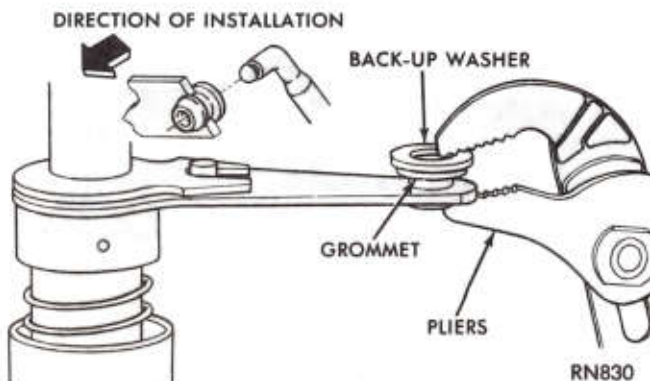

Fig. 5—Install New Grommet
(13) Remove nuts attaching steering column bracket to instrument panel support.
(14) Carefully remove lower coupling from steering gear wormshaft, then remove column assembly out through passenger compartment being careful not to damage paint or trim.
(15) Install **new** grommet from rod side of lever, using pliers and backup washer to snap grommet into place (Fig. 5). Use MOPAR Multipurpose Grease, Part Number 4318063 or equivalent, to aid installation of grommet. **New grommet should be used whenever rod is disconnected from lever.**